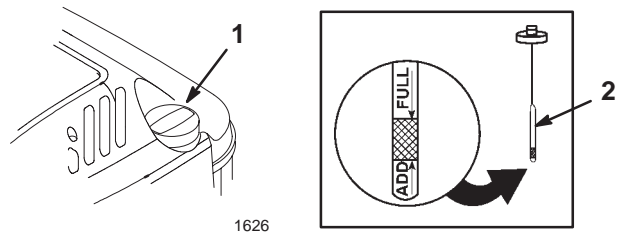

Figure 7
Before each use, ensure that the oil level is between the Add and the Full marks on the dipstick (Fig. 7).
2. Clean around the dipstick (Fig. 7).
6. Read the oil level on the dipstick (Fig. 7).